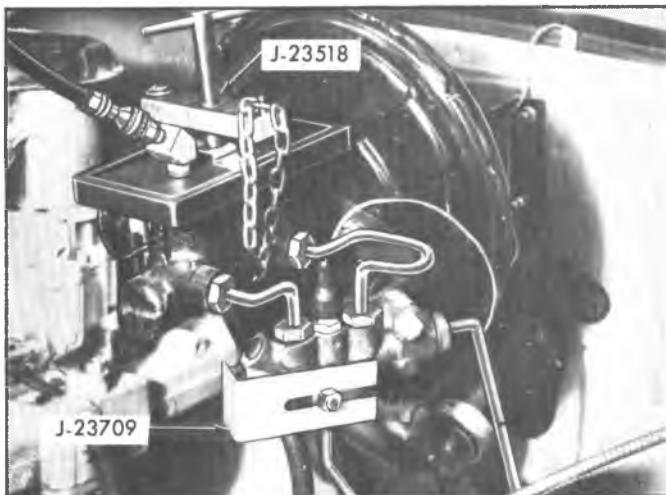

Fig. 29--Brake Bleeder J-23518 and J-23709
### Pressure Bleeding (Figs. 29 and 30)
(fig. 29). Be sure to retorque the mounting bolt after removing Tool J-23709.
**NOTE:** The combination valve, located near the master cylinder, must be held in the open position while bleeding. This can be accomplished by installing Tool J-23709 with the open slot under the mounting bolt and pushing in on the pin in the end of the valve (fig. 29). Be sure to retorque the mounting bolt after removing Tool J-23709.